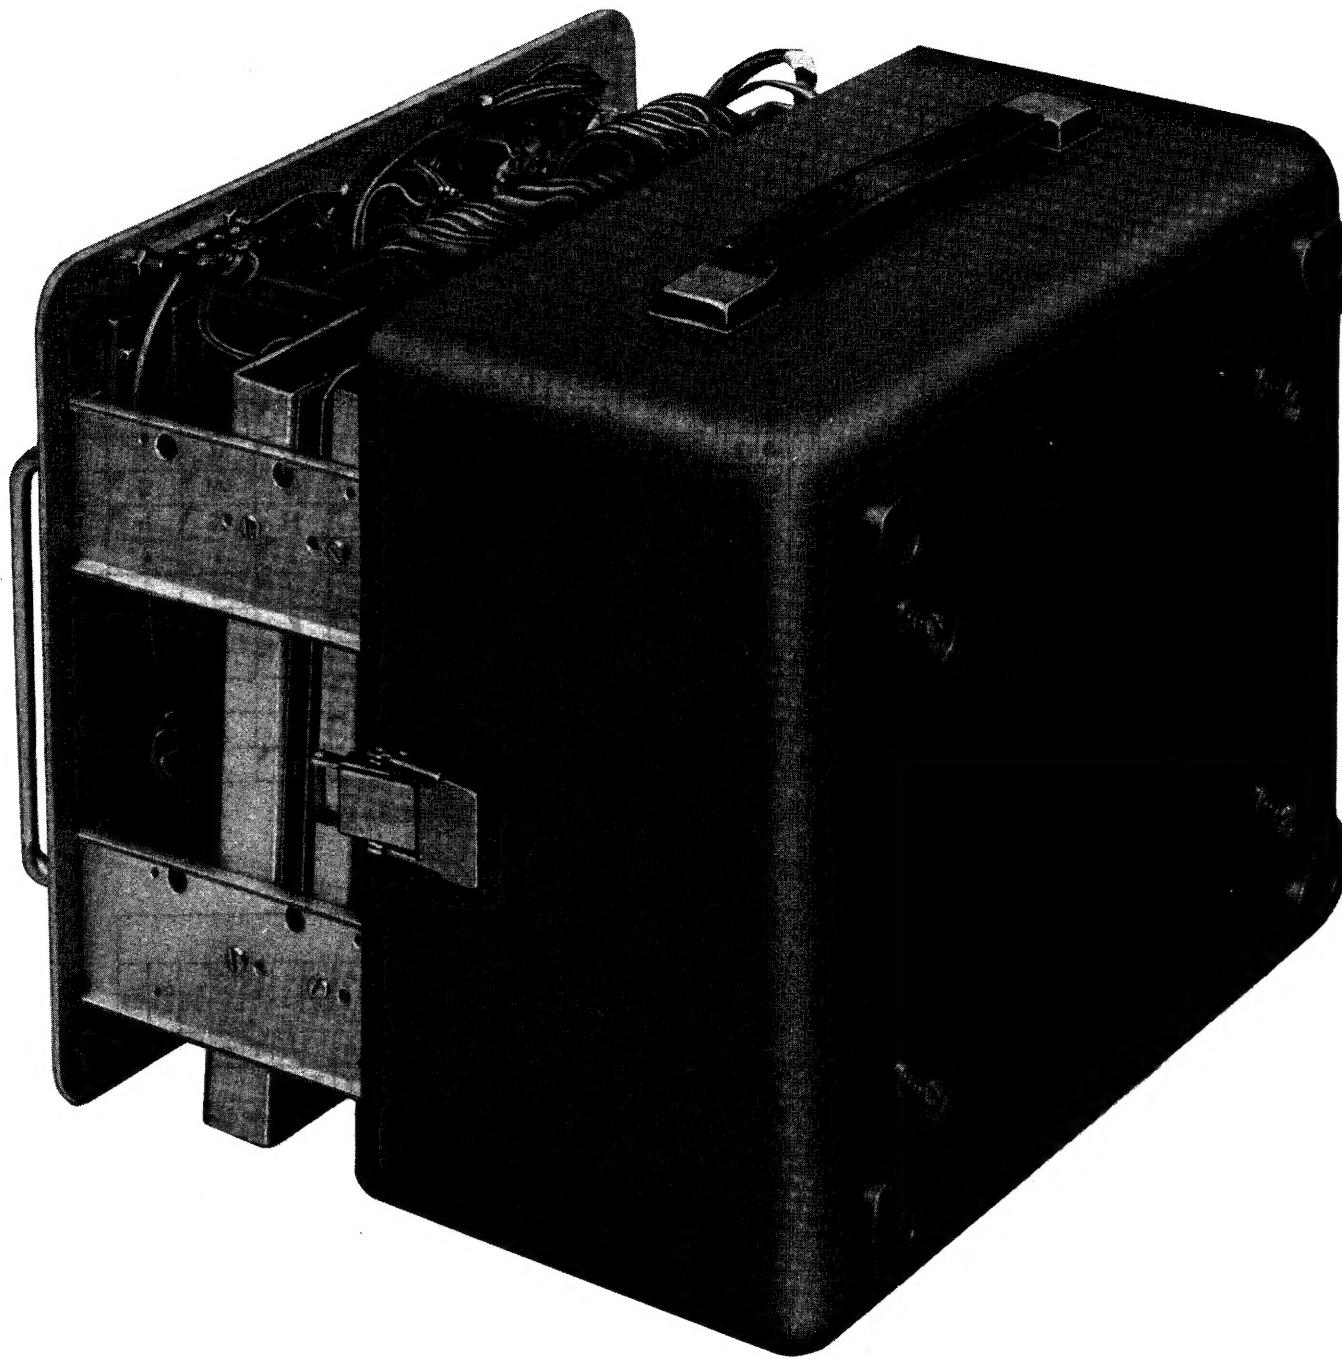
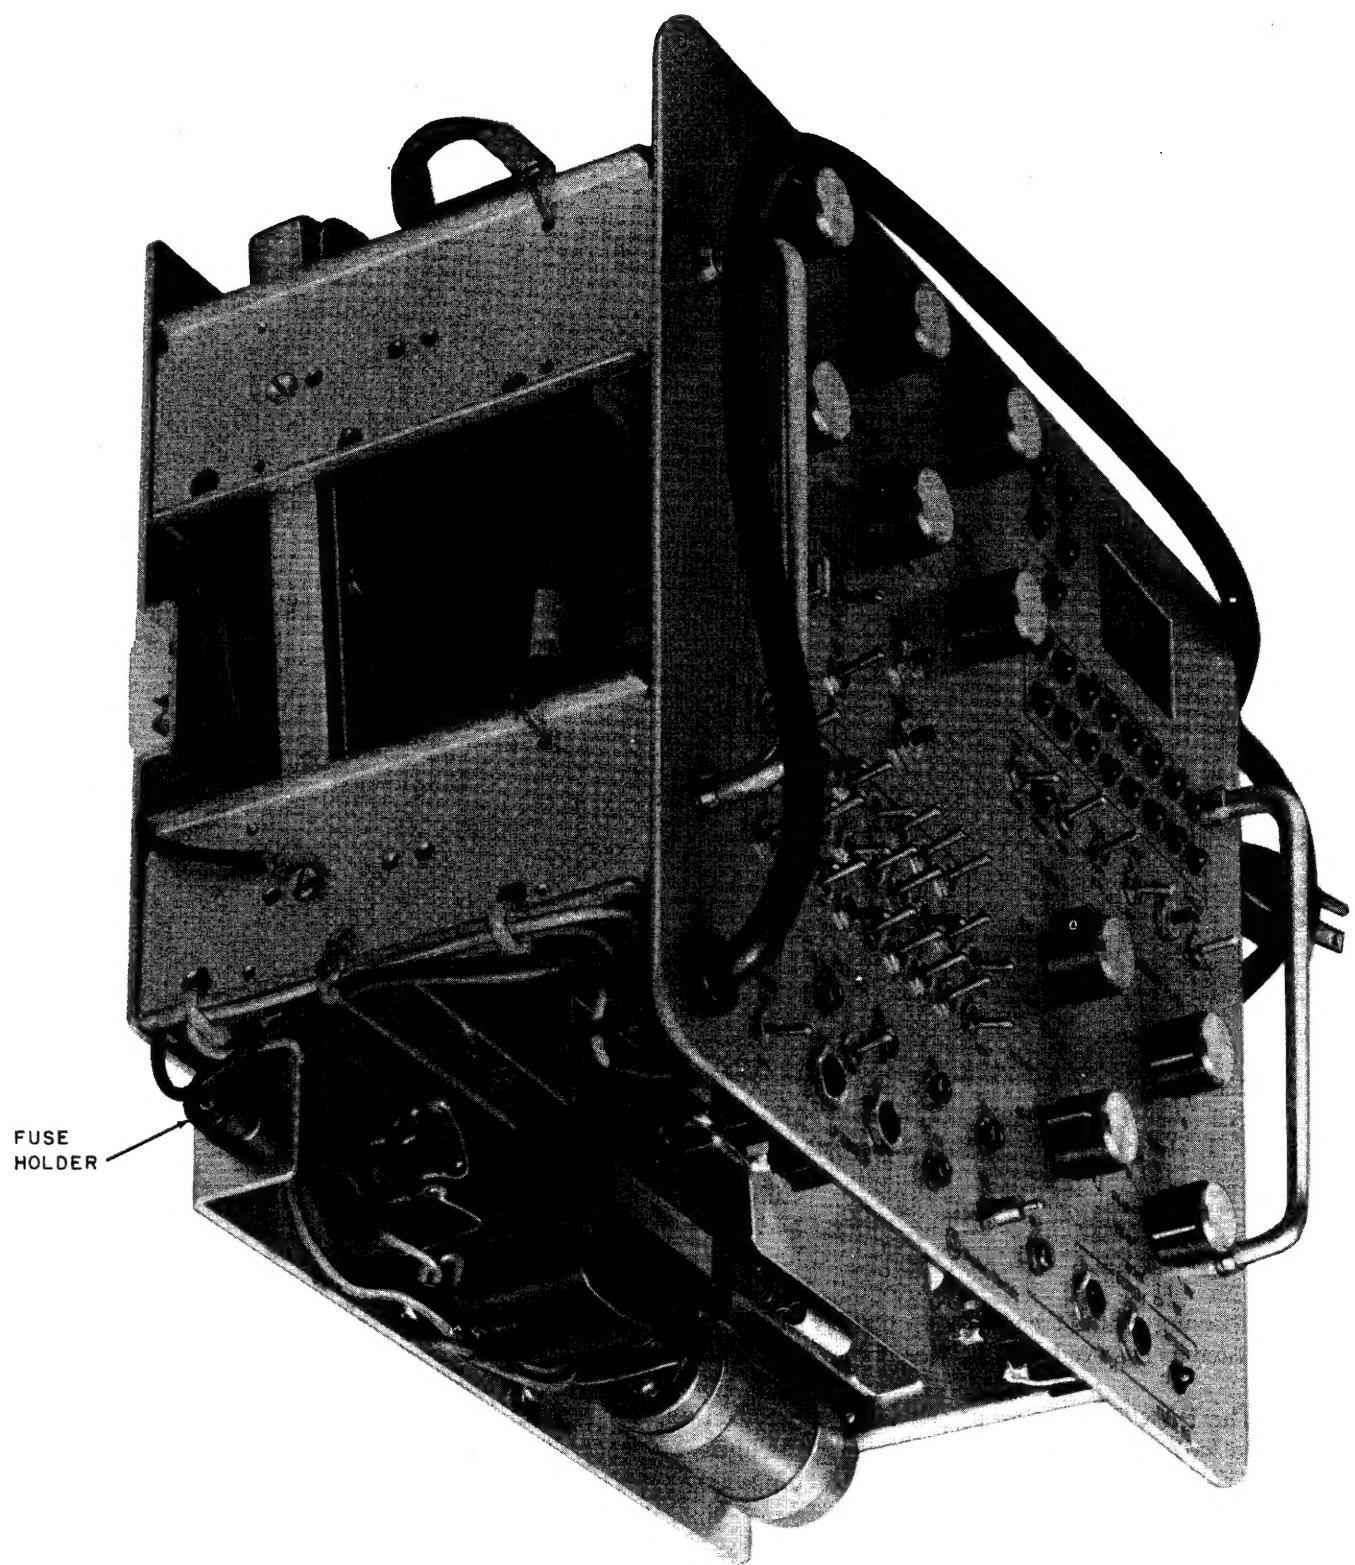

Fig. 5—911NA DTS—Rear Cover Removal
Fig. 6—911NA DTS—Rear Cover Removed
2.04 The DTS is powered by a self-contained power supply which draws about 40 watts of 105- to 135-volt 50- to 60-Hz commerical power. The power supply is fused with a 1/2-amp fuse that is accessed by turning the four quick-release screws shown in Fig. 5 counterclockwise and removing the DTS from the case. The location of the fuse holder is shown in Fig. 6. Two spare fuses (not shown) are mounted on the rear of the unit.